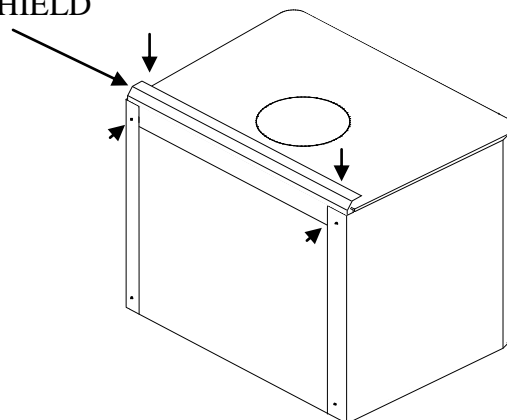

Figure 11c
3. Loosen two top screws holding side shield at back top. Insert pipe shield where back shield and top back side shield meets. Tighten screws. (See figure 11c).